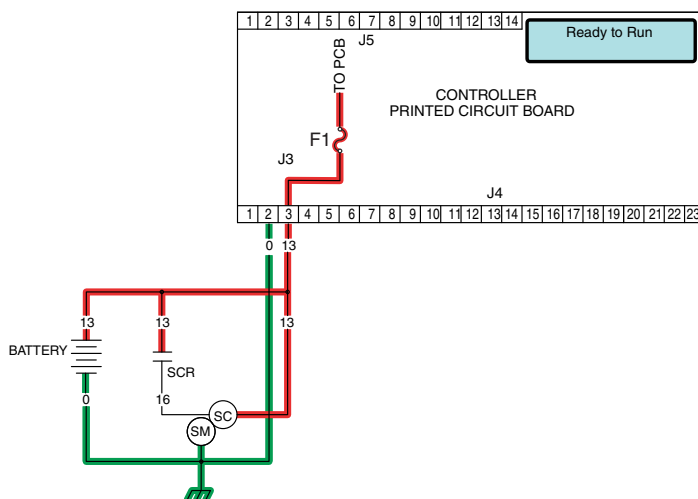

Figure 158.
- Battery voltage is available to the controller via Wire 13 when a Battery is installed (see Figure 158).